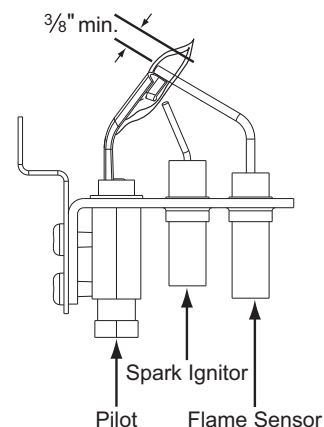

Figure 18: Proper Flame Adjustment
1. **Limit Switch (LS)** - This control is located inside the heat exchanger compartment and is set to open at the temperature indicated in the Temperature Controls Table of the unit wiring diagram. It resets automatically. The limit switch operates when a high temperature condition caused by inadequate supply air flow occurs, thus shutting down the ignition control and closing the main gas valve and energizing the blower.
2. **Pressure Switch (PS)** - If the draft motor should fail, the pressure switch prevents the ignition controls and gas valves from being energized.
3. **Flame Sensor** - The flame sensor and controls are located per Proper Flame Adjustment Figure 18. If an ignition control fails to detect a signal from the flame sensor indicating the pilot flame is properly ignited, then the main gas valve will not open.
4. **Rollout Switch (RS)** - This switch is located in the burner vestibule. In the event of a sustained main burner flame rollout, it shuts off the ignition control and closes the main gas valve.
- NOTE:** The manual reset **Rollout Switch (RS)** must be reset before allowing furnace operation.
5. **Auxiliary Limit Switch (ALS)** - This control is located inside the heat exchanger compartment and is set to open at 160°F. It is a manual reset switch. If ALS trips, then the primary limit (LS) has not functioned correctly. Replace the primary limit LS.
3. The pilot flame should envelope 3/8" of the end of the flame sensor and not contain any yellow color, see Figure 18.